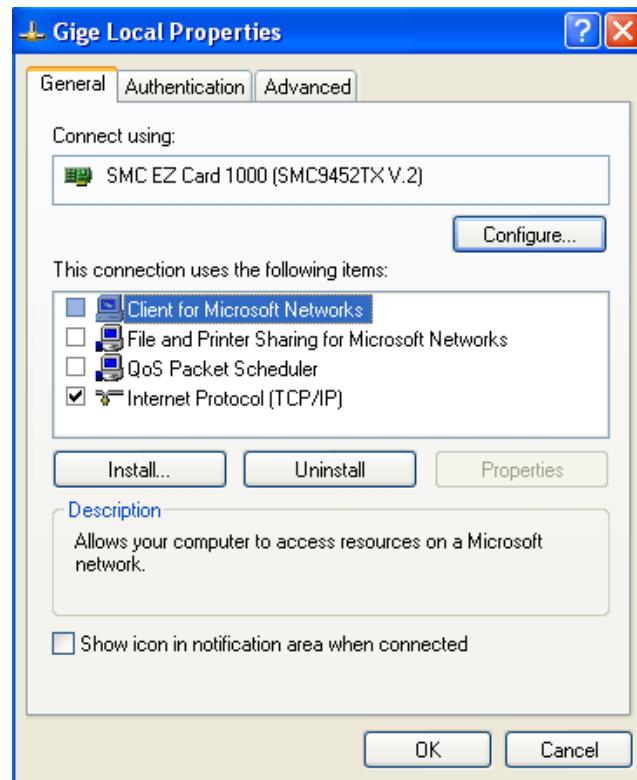

Figure 8. Network card main properties window.
- Open the Network Connections Dialog as follows: From the Windows desktop select **start**, then select **Control Panel**, then double click on the **Network Connections** icon. Double click the relevant network card listed or right-click the relevant network card and select **Properties**. This will open the properties window for your network card. See Figure 8.
- From the main properties dialog as in Figure 8, make sure that only the **Internet Protocol (TCP/IP)** check box is selected then click **OK**. The card is now optimized for use with the Prosilica camera.